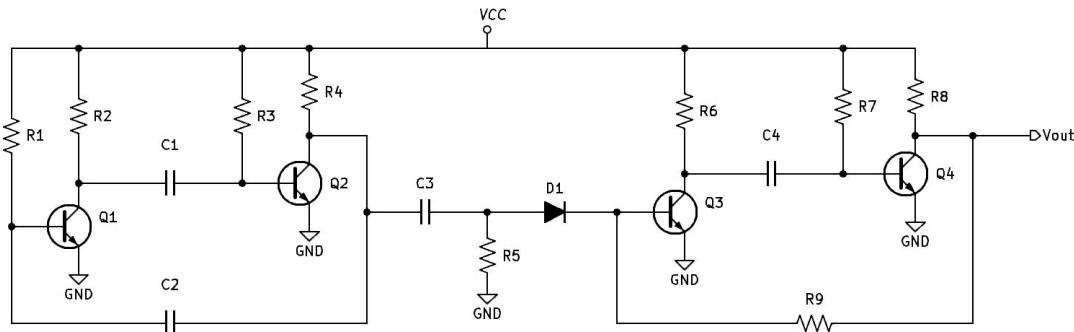

Figure 10.8: Astable Multivibrator Extreme Duty Cycle Circuit Variant
- To produce an extreme duty cycle waveform, an a standard Astable circuit can be used to drive/trigger a standard Monostable circuit as seen in Figure 10.8.